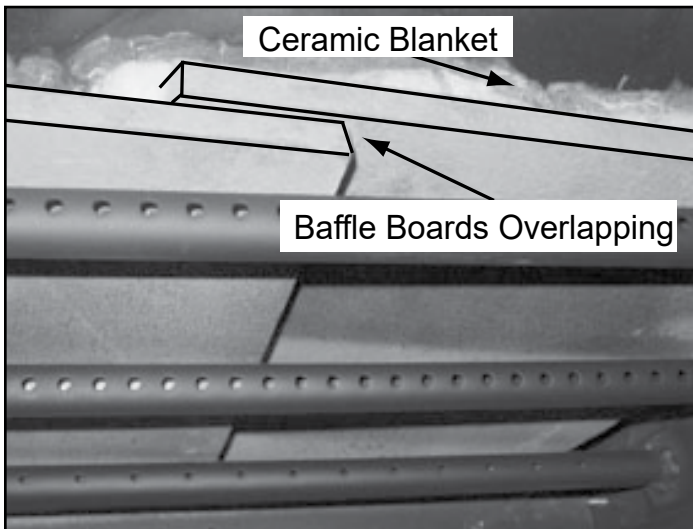

Figure 20.1
3. Once the baffle protection cover has been removed, pull the baffle boards and ceramic blanket forward about 1 inch (25mm) and then overlap the baffles about 1-2 inches (25-51mm) (**Figure 20.1**).